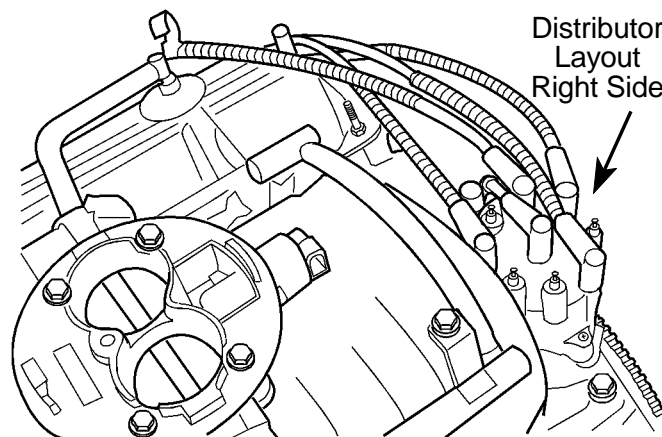

FIGURE 7
- E. Install the No. 4 cylinder plug wire to its distributor cap terminal (Figure 7).